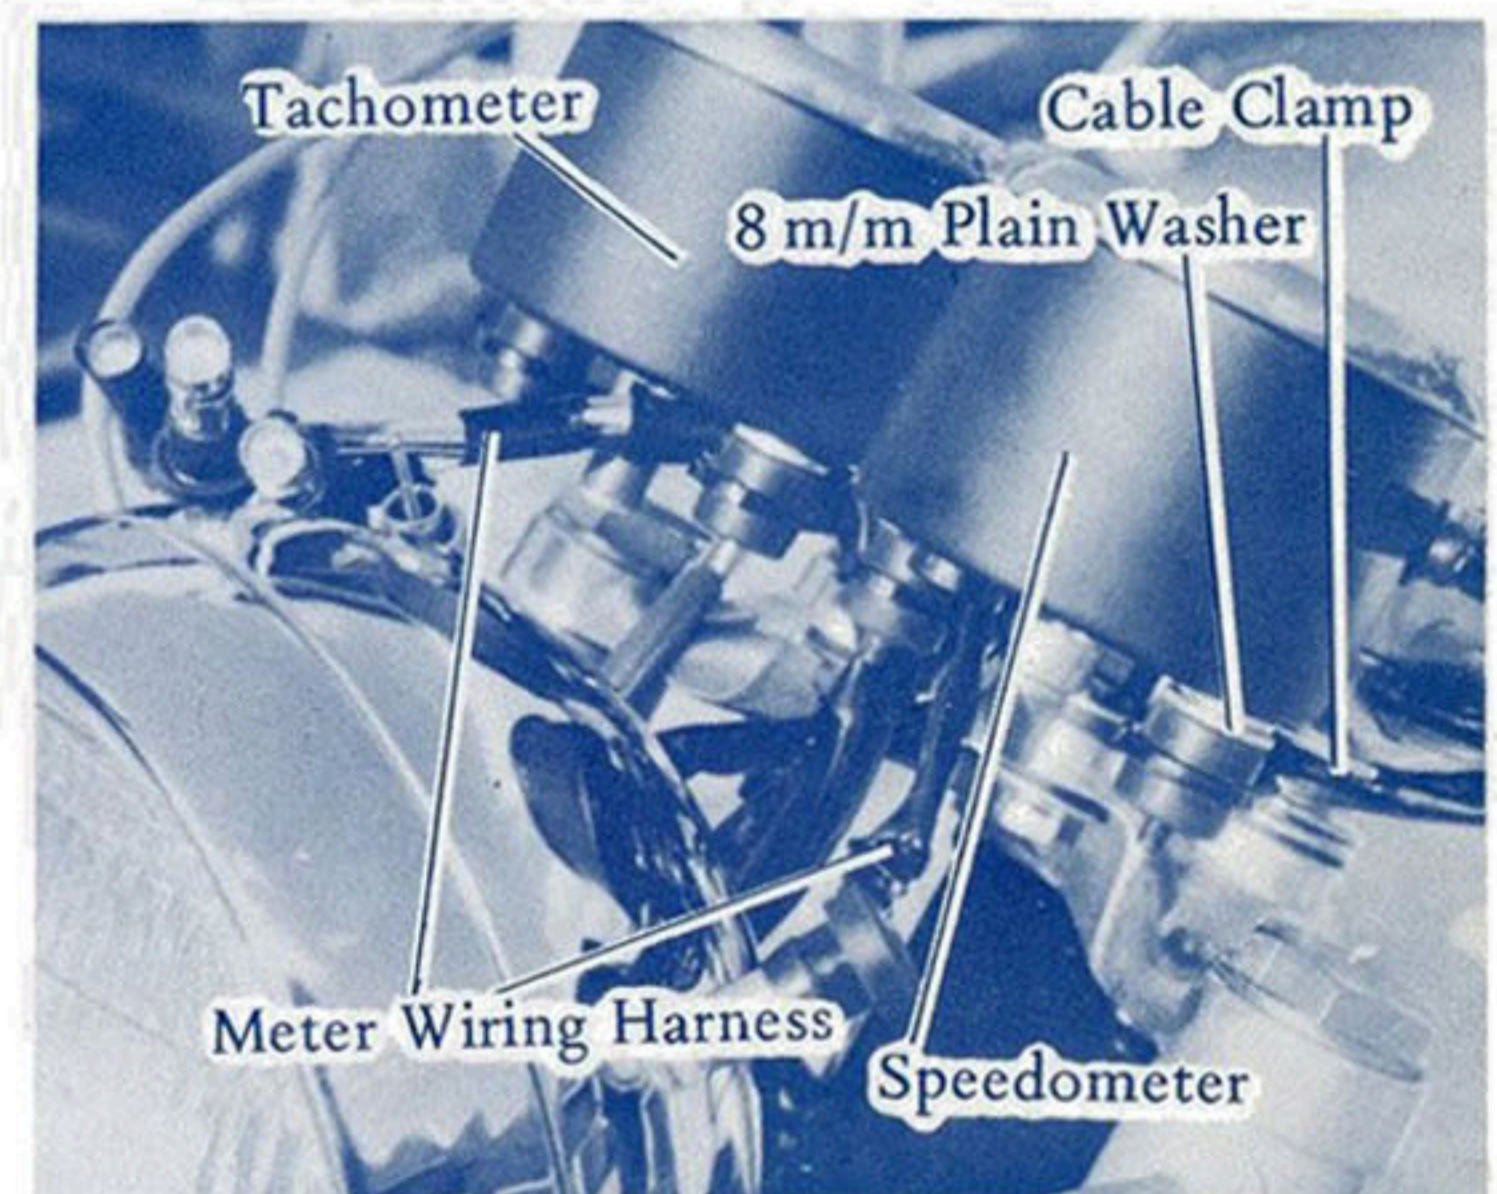

Fig. 6
1. Fit speedometer and tachometer on meter bracket with following parts as shown in fig. 6, 7.
Note: Be sure to pass meter wiring harness between the bottom of meter and meter bracket as shown in fig. 6.